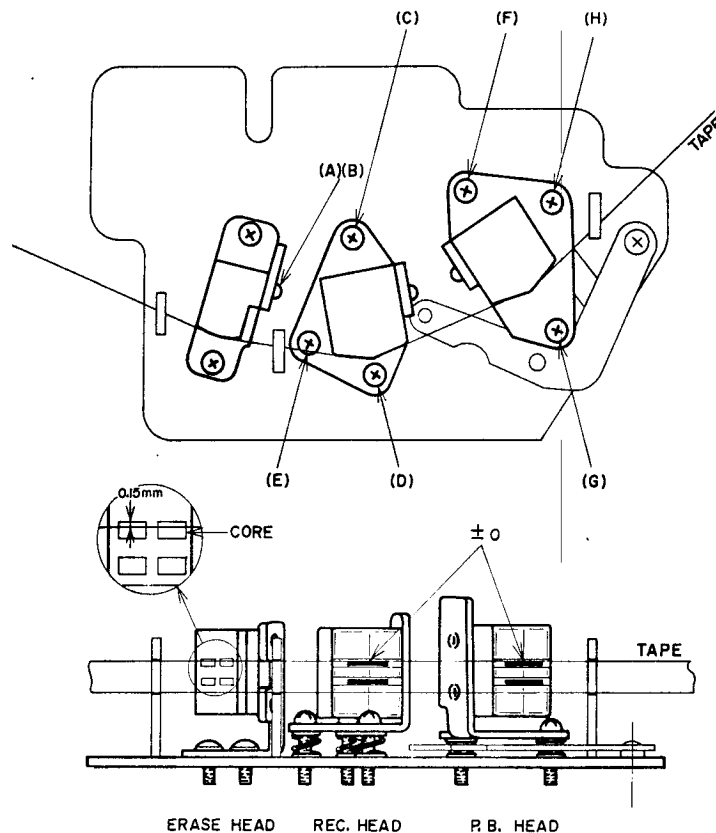

Fig. 17
(See Fig. 17)
Loosen screws (A) and (B) shown in Fig. 17 and adjust erase head height. Tighten screws at position at which the upper edge of the tape is 0.15 mm lower than the upper edge of the left channel head core of the erase head.
Adjust head height adjustment screws (C) and (D) shown in Fig. 17 so that the upper edge of the tape and the upper edge of channel 1 head core of the recording head are the same height.
Adjust head height adjustment screws (F) and (G) shown in Fig. 17 so that the upper edge of the tape and the upper edge of channel 1 head core of the playback head are the same height.
d. Adjust adjustment screw (H) to obtain maximum High Sensitivity V.T.V.M. indication on both channels.
d. Adjust adjustment screw (E) to obtain maximum High Sensitivity V.T.V.M. indication on both channels.
ADJUSTMENT (See Fig. 17)